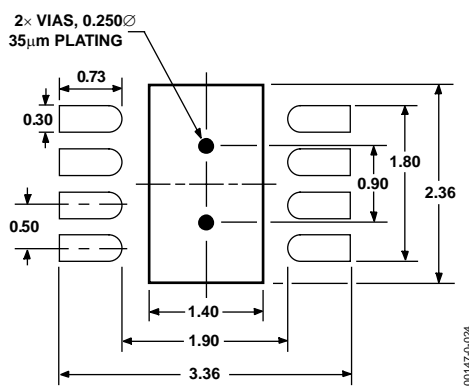

Figure 25. 3 mm x 3 mm LFCSP Pad Pattern
1. The pad pattern is given in Figure 25. The pad dimension should be followed closely for reliable solder joints, while maintaining reasonable clearances to prevent solder bridging.
2. The thermal pad of the LFCSP package provides a low thermal impedance path (approximately 20°C/W) to the PCB. Therefore, the PCB must be properly designed to effectively conduct heat away from the package. This is achieved by adding thermal vias to the PCB, which provide a thermal path to the inner or bottom layers. See Figure 25 for the recommended via pattern. Note that the via diameter is small to prevent the solder from flowing through the via and leaving voids in the thermal pad solder joint.